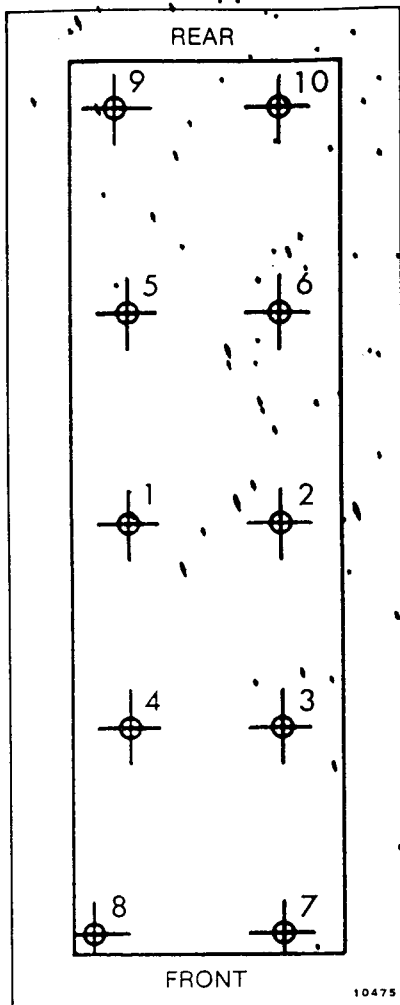

Figure 8-1-19
6. Tighten the cylinder head a little at a time with a torque wrench in the sequence shown in Figure 8-1-19. The final torque should be 90 to 100 foot-pounds.